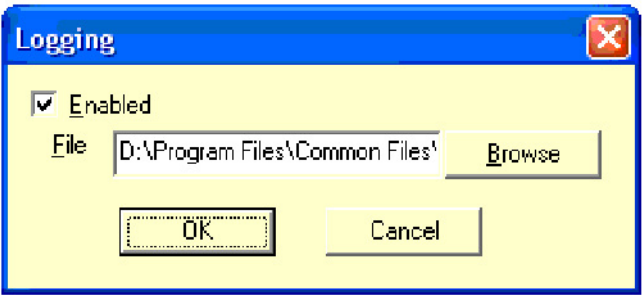

FIGURE 95. LOGGING DIALOG
**Options-Logging:** This option provides you with a means to assign a location for storing strip log files. The default file location is listed on the menu (Figure 95). If necessary, select the **Browse** button to select another location. Logging can be enabled from this menu. When all adjustments are completed, click on the **OK** button.